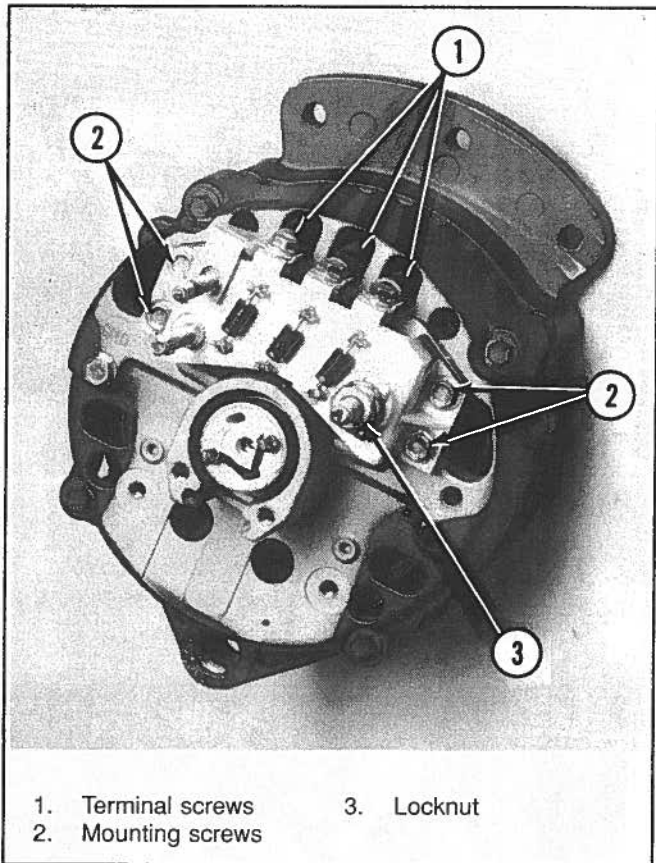

Figure 6-70. Diode Trio And Rectifier Bridge Removal
4. The diode trio and rectifier-diode bridge are removed as an assembly. Remove three terminal screws (1) (Figure 6-70) and four mounting screws (2). Remove locknut (3) on the output (B+) terminal. Remove assembly and separate the diode trio from the diode bridge.